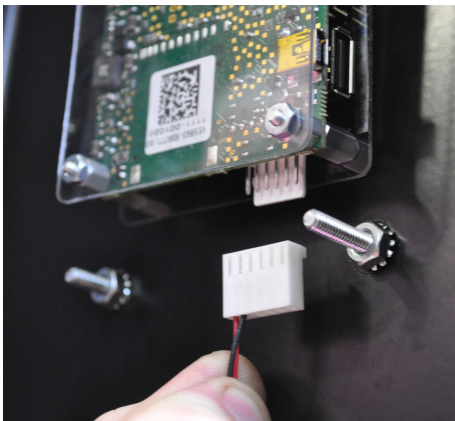

Figure 10
8) Insert MDB connection into the MIND Driver Board as shown in Figures 10 and 11.